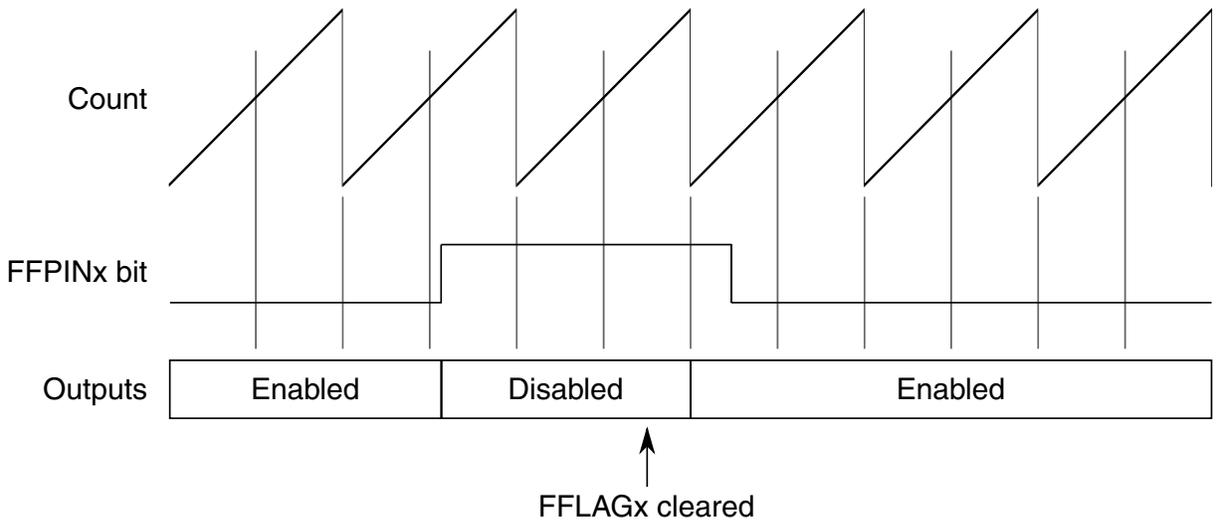

Figure 13. Manual fault clearing example ($FCTRL[FSAFEx] = 0$)
- The next PWM full or half cycle begins, regardless of the logic level detected by the filter at the $FAULTx$ pin. See Figure 13. If $FSTS[FFULLx]$ is set, then the disabled PWM pins are enabled only at the start of a full cycle and not at the half-cycle.